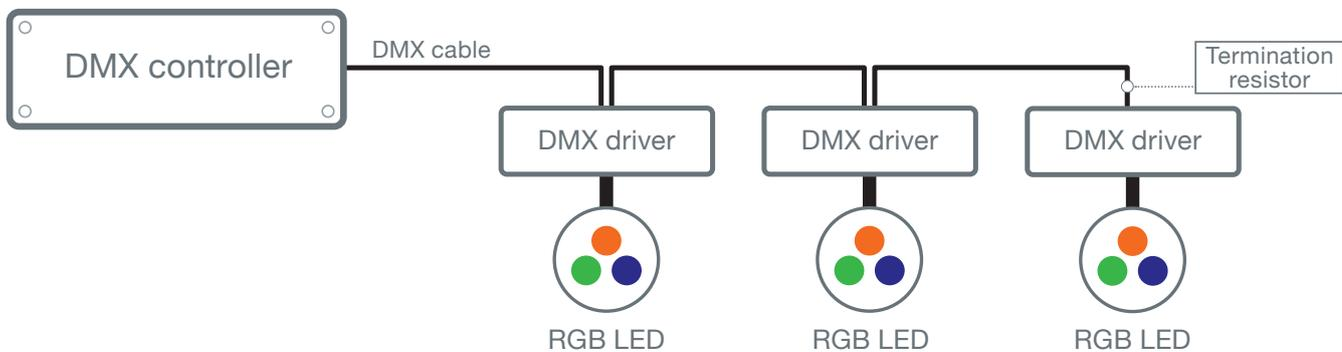

Fig. 1: a typical DMX universe, showing the 120Ω resistor required at the end of the line
Below, a typical DMX universe is shown. The DMX controller sends signals over the DMX cable to the drivers. At the last driver, the cable has to be terminated with a 120Ω resistor to prevent reflections which can disturb the DMX signal and cause lighting malfunctions. Any properly installed DMX network requires only a single 120Ω resistor at the end of the line of daisy-chained luminaires, connected as shown in Figure 1.
- Use a daisy chain topology. The DMX standard specifies that a network of DMX devices can only be connected in a simple linear, daisy-chain configuration, as shown in Figure 1. Never extend a DMX network via T-taps or Y-taps: when connected in anything other than a daisy-chain topology, DMX luminaires are susceptible to signal distortion or failure. This typically causes malfunctions such as delay or failure to respond to commands, flickering, and unwanted lighting effects. A luminaire manufacturer might be able to demonstrate a working DMX network with a topology other than a simple daisy chain in ideal, laboratory conditions and over a short cable run. In real world conditions, such a network topology